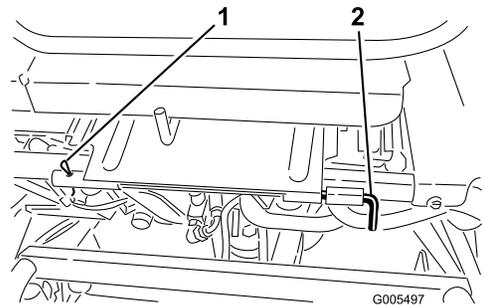

Figure 25
3. Lower the seat and remove the roll pin securing the seat-pivot rod to the frame (Figure 25).